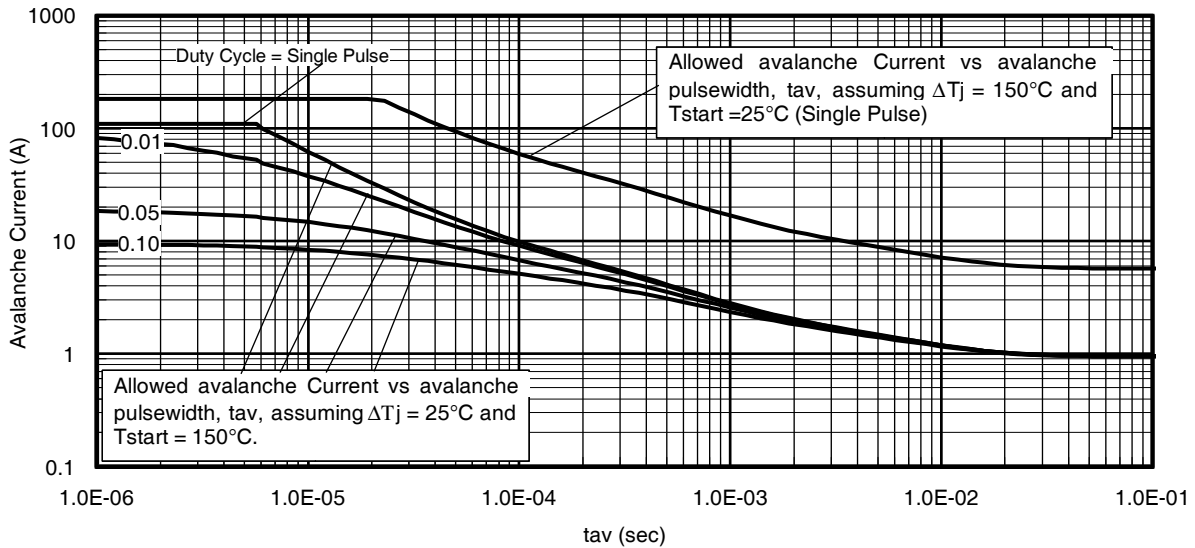

Fig 14. Typical Avalanche Current vs. Pulsewidth
| I_{AR} | Avalanche Current ① | See Fig. 14, 15, 22a, 22b, | A |
Notes on Repetitive Avalanche Curves , Figures 14, 15:
7. ΔT = Allowable rise in junction temperature, not to exceed T_{jmax} (assumed as 25°C in Figure 14, 15).